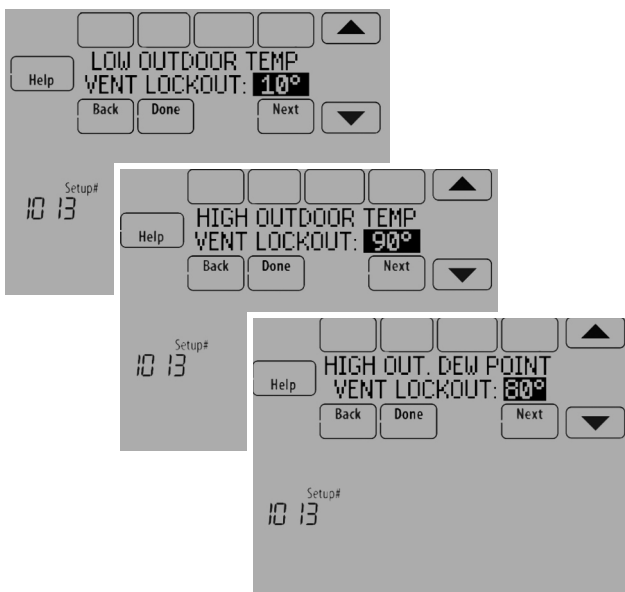

Fig. 165.
- Select the Outdoor Condition Lockouts. See Fig. 165. See "Ventilation — Outdoor Condition Lockouts (ISU 1013)" on page 68 for more information.